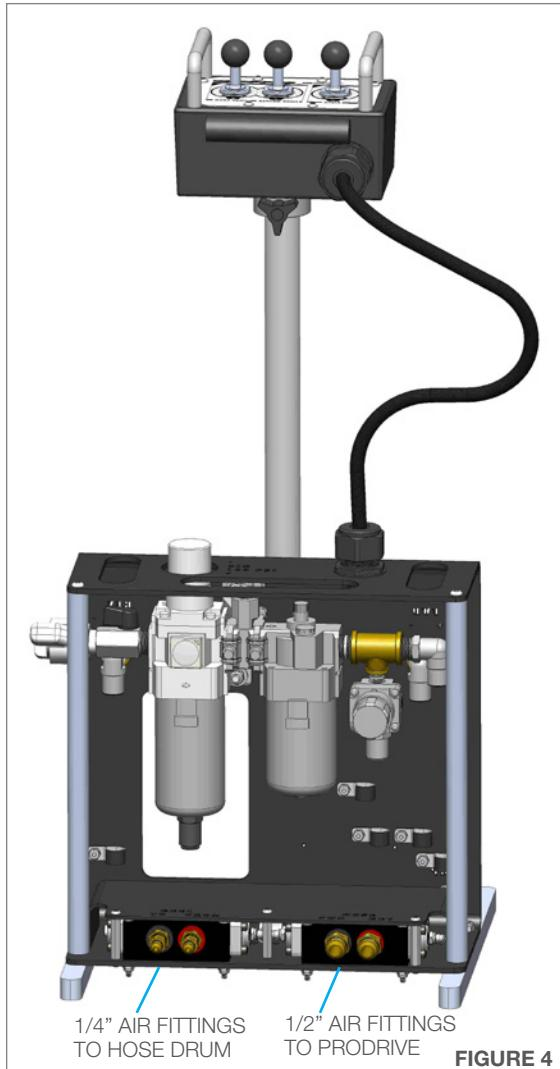
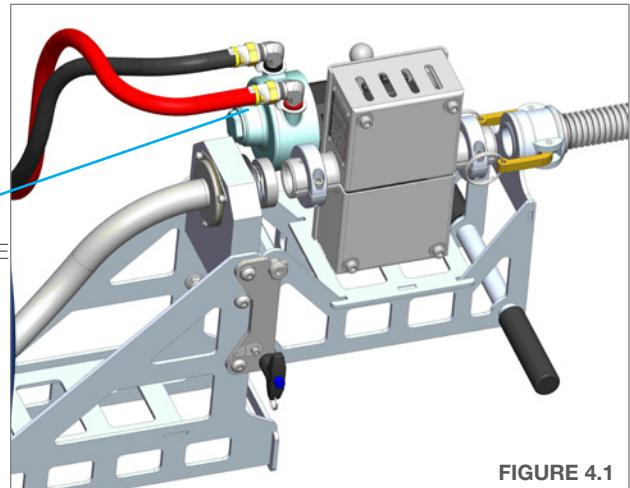
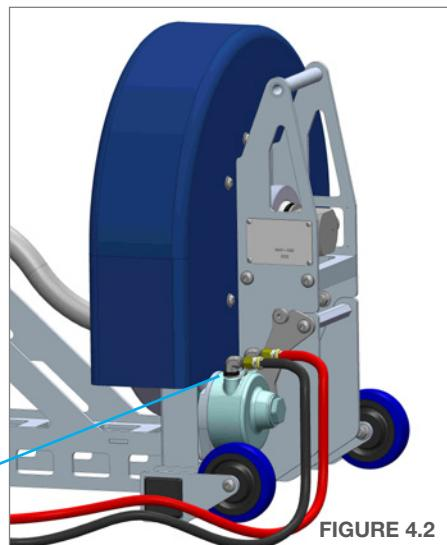

FIGURE 4
FIGURE 4.1
FIGURE 4.2
4. Slide the Snout Assembly over the hose end. Pull Camlock Release Rings out to ready the Camlock to receive the Snout Plug End. Install the Snout Plug End into the Camlock and push the Camlock pins back into place, locking the Plug End. (**Figure 4**) Pull on the Snout Assembly to make sure it is secured. Feed the rest of the hose through the Snout Assembly and leave enough length to feed through a pipe attachment. (**Figure 4.1**)
4. Pull the Dust Caps off the Pneumatic Air Fittings. Connect the 1/4" Pneumatic Supply Lines from the Control Box to the Hose Drum Assembly. (**Figure 4.2**) Connect the 1/2" Pneumatic Supply Lines from the Control Box to the ProDrive Assembly. (**Figure 4.1**) Pay attention to the color coded tabs on the air fittings of the Air Motors and the Control Box. Connect the red hose to the red banded air fittings and the black hose to the black banded air fittings. (**Figure 4 & 5**)
4. Remove the two socket head cap screws, Roller Washers, Outer Hub Plates and Spline Rollers. (**Figure 4**)